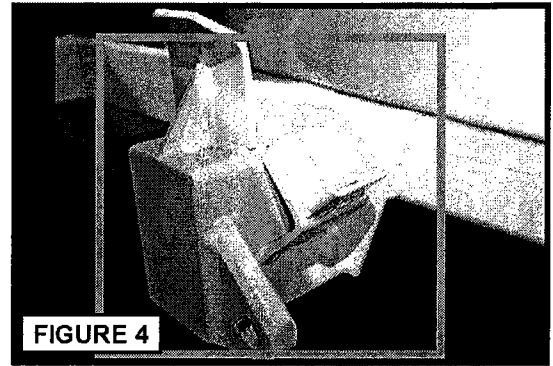

FIGURE 4
Step 4 (Figure 4)- Inspect all welds attaching the rear lower dump cylinder mount to the scissors top frame assembly.